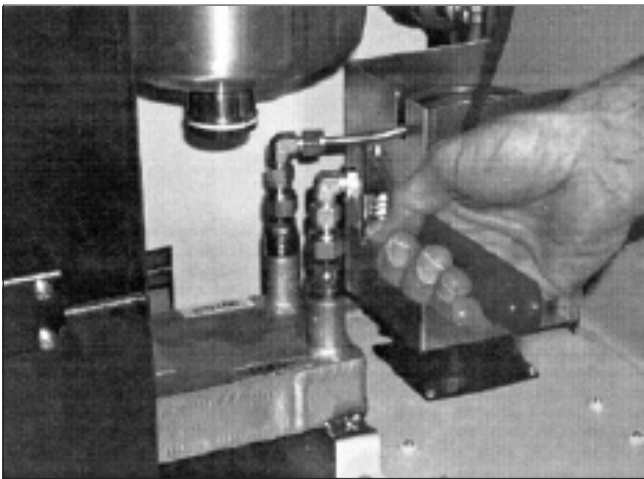

Figure 13 - Remove the two fittings on the heat exchanger
- 7 Disconnect the two tubing connections on the catalyst heat exchanger (see Figure 13) with the 9/16" (or adjustable) wrenches.